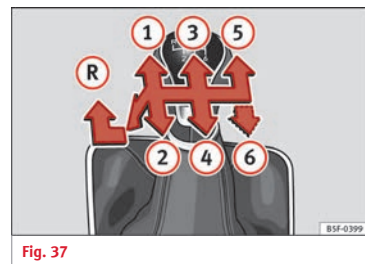

Fig. 37
The position of the gears is indicated on the gearbox lever » Fig. 37.
- With the gearbox lever in neutral, push it upwards, move it to the left as far as it will go and then forwards to select reverse » **Fig. 37** **R**.